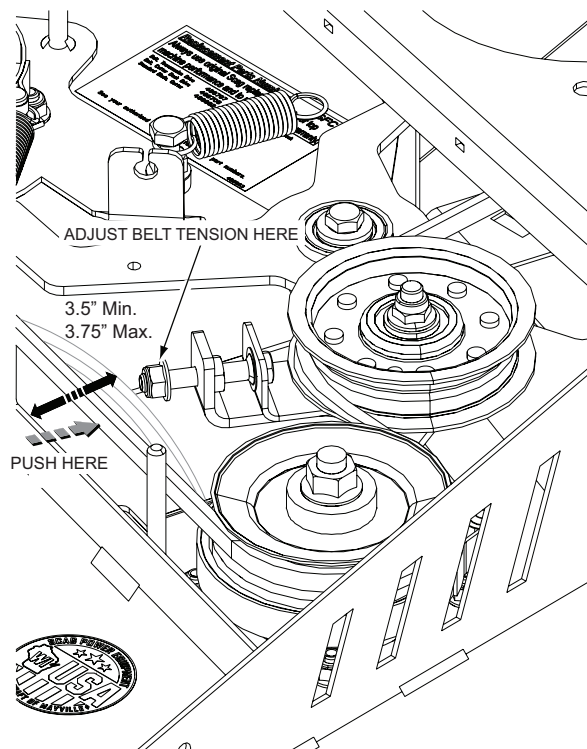

Figure 6-9. Deck Drive Belt Adjustment
2. Adjust the tension by tightening or loosening the adjustment bolt. See Figure 6-9.
3. Adjust the belt so that the belt moves between 3-1/2" to 3-3/4" when applying pressure. Apply pressure to the belt and measure from the back edge of the belt to the rib on the cutter deck as shown. See Figure 6-9.